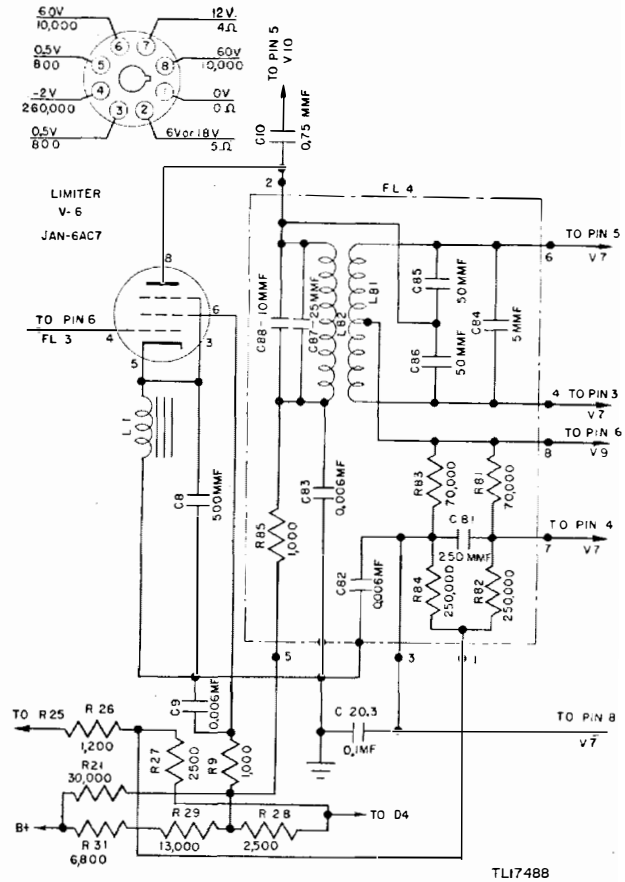

Figure 30. Radio Receiver BC-603-(*), limiter, V6—schematic diagram.
37. Parts List for Limiter Stage, V6 (fig. 30)